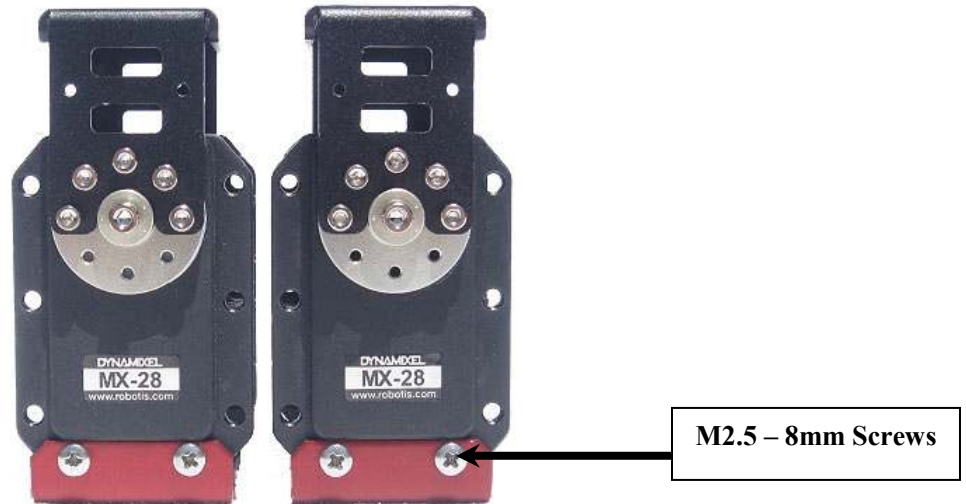

Figure 13
1. Build (2) complete servos as shown in figure 13.